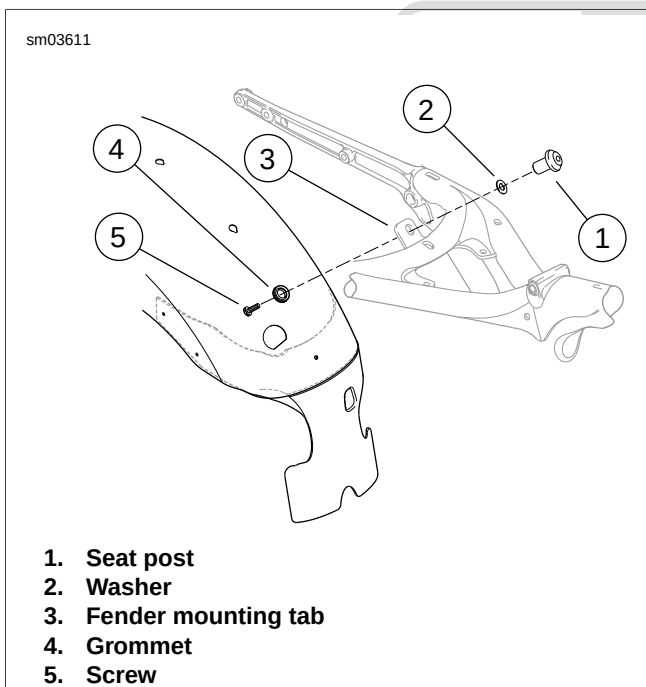

Figure 2-243. Seat Post/Rear Fender Mount Hardware
18. Have an assistant hold rear fender in place. See Figure 2-243. Remove seat post (1), washer (2) and screw (5). Remove rear fender from vehicle, being careful not to damage paint. Lay rear fender on a soft, clean surface.
4. See Figure 2-243. With assistant holding rear fender in place, install screw (5) through fender and frame tab. Install washer (2) on screw. Thread seat post (1) onto screw. Tighten seat post only finger tight at this time.
- a. See Figure 2-243. Tighten screw (5) and seat post (1) to 96-156 **in-lbs** (10.9-17.6 Nm).